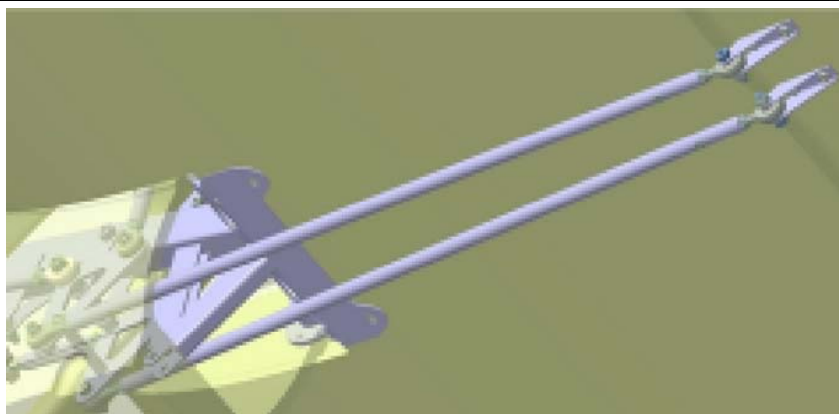

Fig. 27-40-15
The trim tab is connected to the control unit by two push-pull rods (Fig. 27-40-15). The neutral position of the trim tab can be adjusted by changing of the push-pull rods.
1	Loose locking nuts (item 2 Fig. 27-40-15)